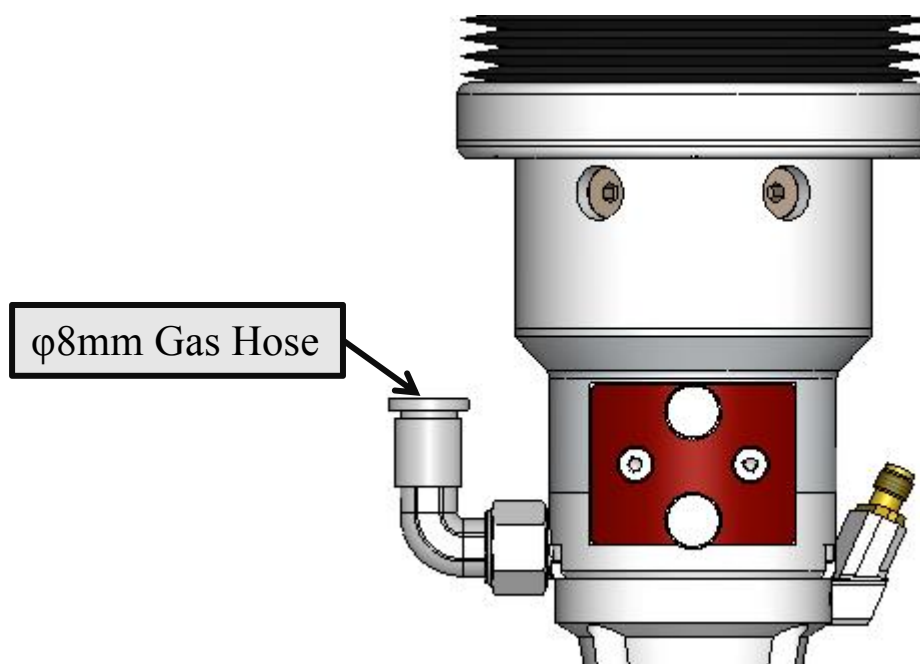

Figure 1.7
① The inlet is connected to 8mm gas hose, as shown in the Figure 1.7, and is used to connect cutting gas, with inlet pressure <2.5 Mpa.